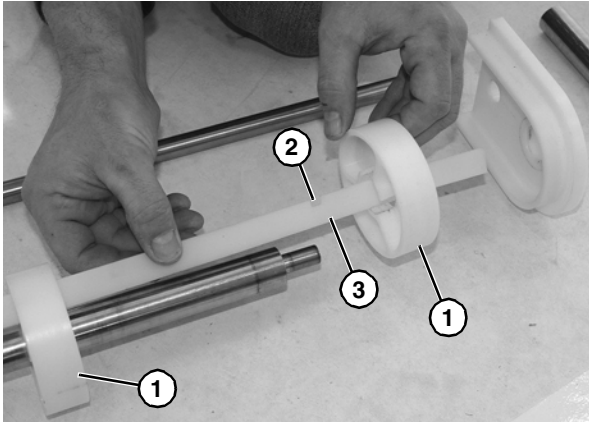

Figure 70
1. Place the pucks (Figure 70, item 1) into the slots (Figure 70, item 2) of alignment bar (Figure 70, item 3).